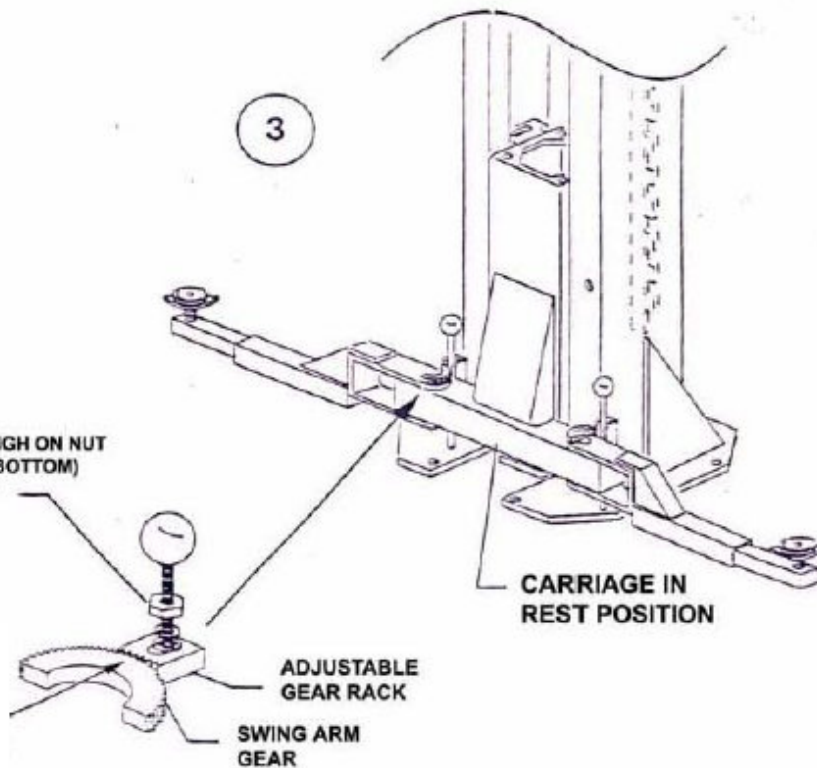

Fig. 13
2. Install arm restraint mechanisms to each swing arm, as shown below in (Fig. 13).